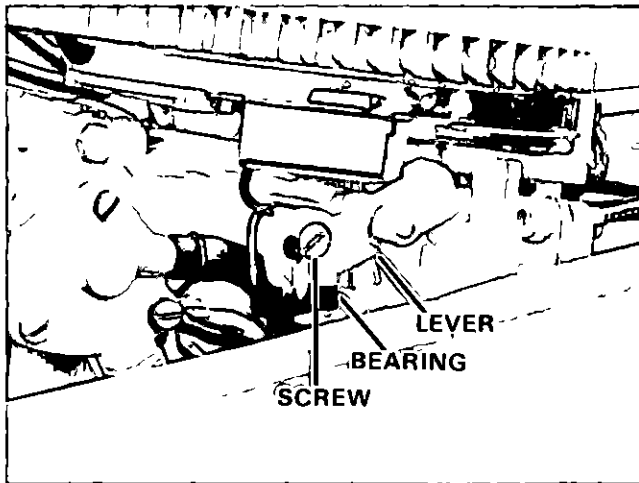

Figure 9. Disconnecting Interlock Lever.
- A Remove swivel screw securing interlock link bearing to interlock lever Figure 9